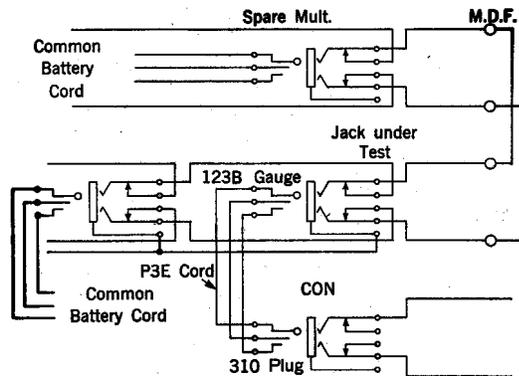

Fig. 2 - Test with A-C Continuity Test Circuit - First Jack
3.09 Make a temporary connection of the tip and ring of the circuit to be tested to a spare multiple jack circuit having a sleeve condition the same as a subscriber line. See Fig. 2.